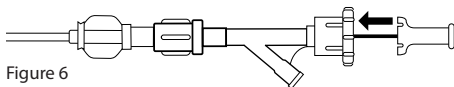

Figure 6
9. Place the Occluding Wire through the hemostasis valve and position the Occluding Wire into the Fountain Infusion Catheter. Snap the proximal end of the Occluding Wire into the cap of the hemostasis valve. (See Figure 6)